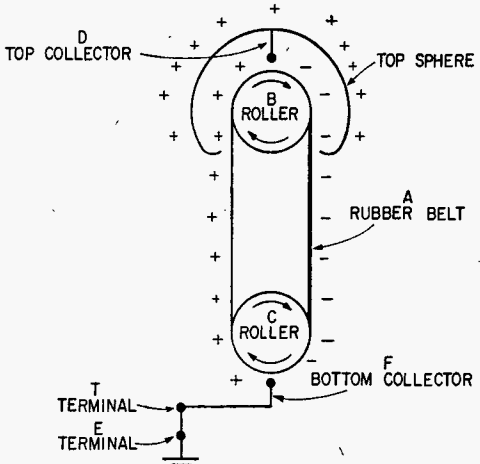

Fig. 2. Basic view of what goes on inside of the Van de Graaf generator. Mechanism is very simple.
In Fig. 2 an endless belt (A) of rubber or other material runs over two rollers. Roller (B), made of acrylic resin and covered with fabric, is in the top sphere and the other roller (C), also made of acrylic resin, but